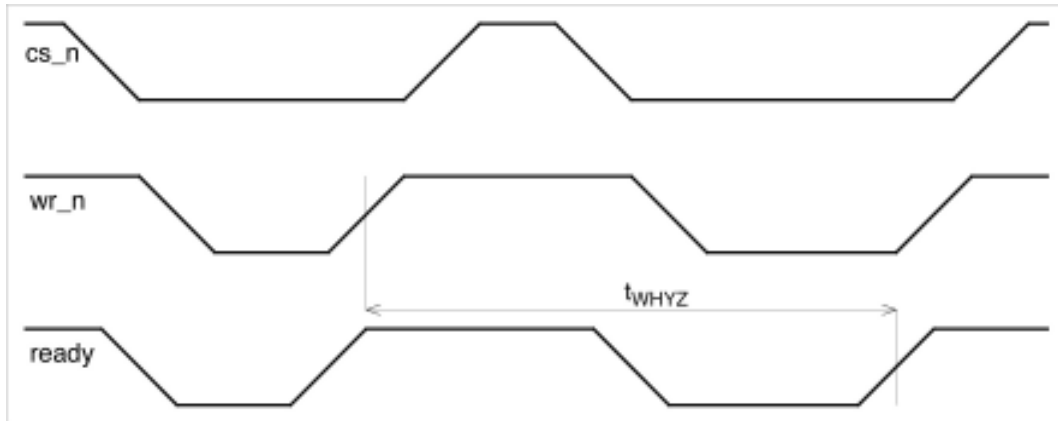

Figure 10. Mode 0 & Mode 1 ready Timing for Write Cycle with Write Active
- Mode 0 & Mode 1 **ready** Timing for Write Cycle with Write Pending (Table 8/Figure 10)